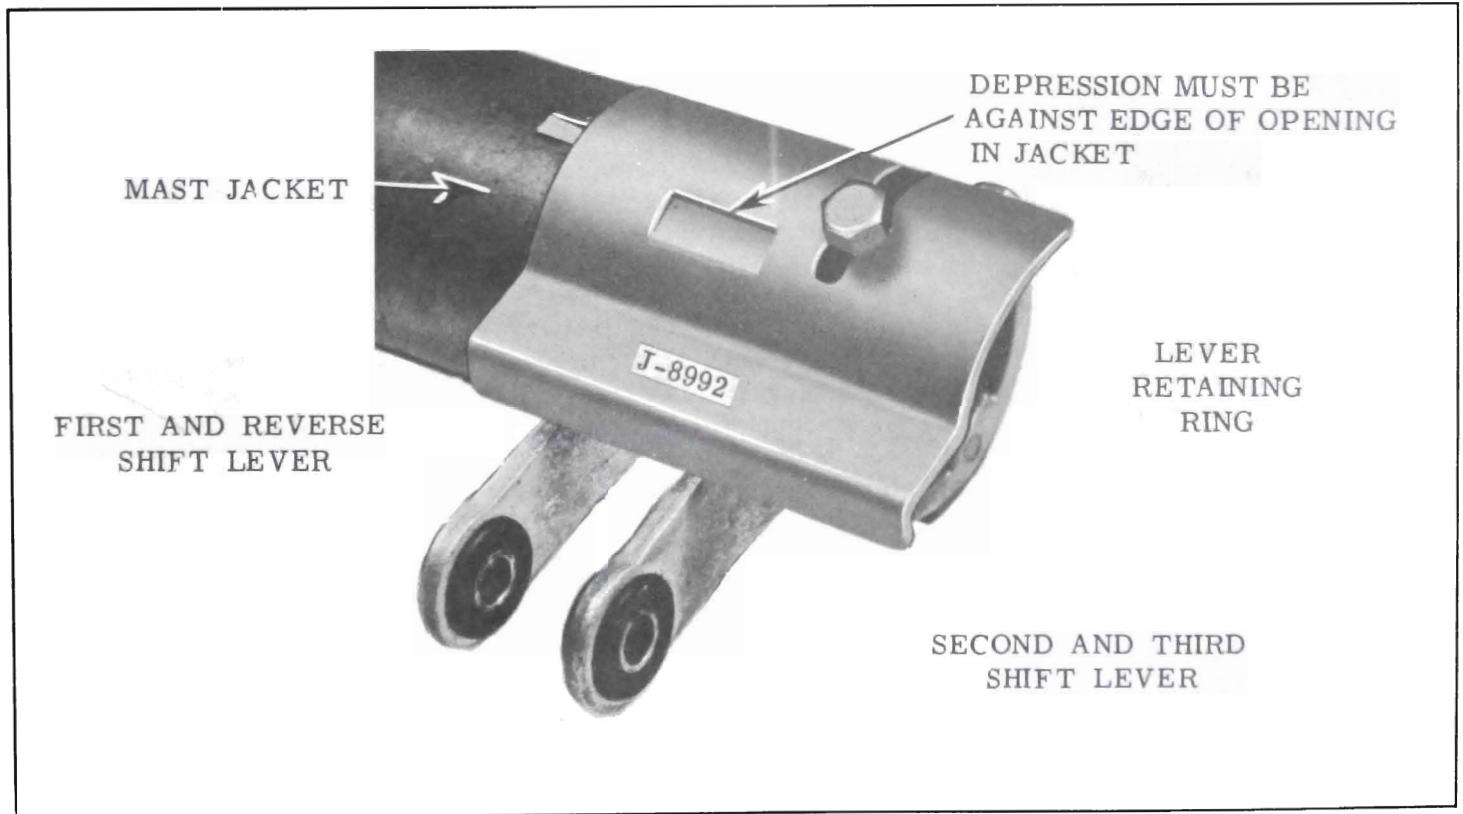

Figure 4-15—Installing J-8992
4. Loosen lever retainer ring bolt and install fixture J-8992 on mast jacket as shown in Figure 4-15.